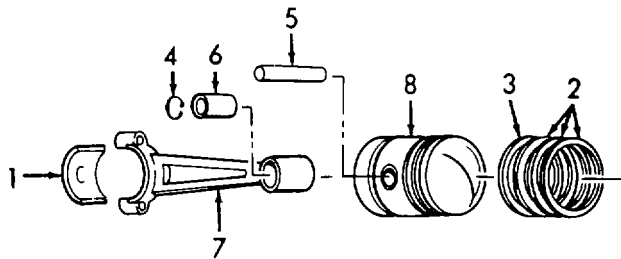

Figure 4-2. Piston and Connecting Rod, Repair.
- (1) Repair of the air compressor (except for the piston and connecting rod assemblies) is limited to the replacement of defective parts.
- (2) Repair of the piston and connecting rod assemblies is as follows (Refer to Figure 4-2):
- (a) Remove connecting rod bearings (1).
- (b) Carefully remove both compression rings (2) and the oil ring (3). Discard the rings.
- (c) Remove both snap rings (4) and using an arbor press, press out the piston pin (5) and rod bearing (6).